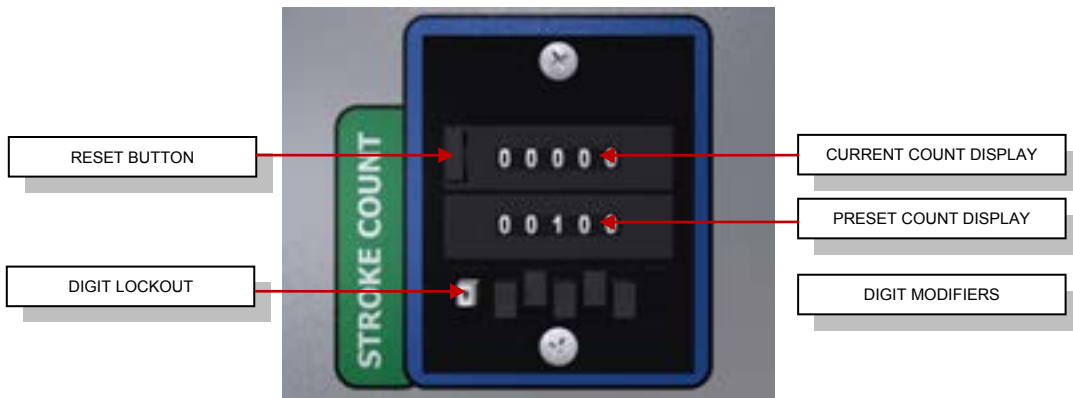

Fig. 5
Adjust the predetermining counter to set the number of required pump strokes for the injection. See figure 5 for an overview of the predetermining stroke counter. To change the preset count, press and hold the white button with arrow decal while pressing one of the black buttons under the preset count corresponding with the digit to be modified.
**NOTE: The machine cannot be started in inject mode, if a previous injection has stopped automatically when the shot count has been reached and the stroke count has not been reset. Press the reset button on the predetermining counter to reset the count and allow the machine to be started. See figure 5**